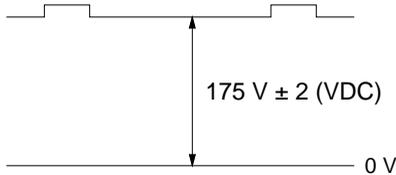

**Fig. 3-4**
- (1) Receive dot/hatch pattern.
- (2) Turn FOCUS VR fully counter-clockwise.
- (3) Confirm the dot shape at the screen center. (Fig. 3-4)
- (4) Resume FOCUS VR.